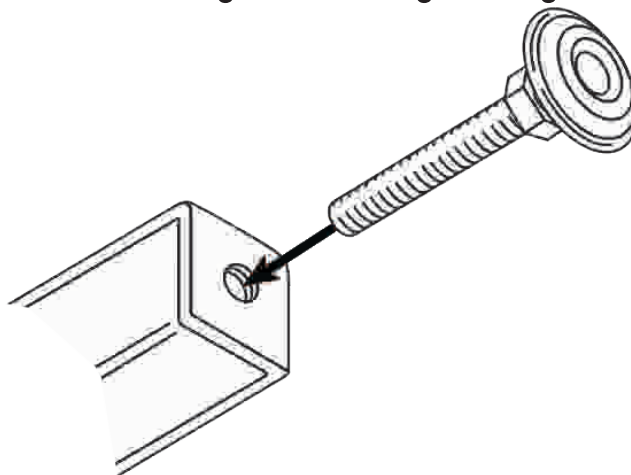

Fig. 3 Adjusting a leg leveler and tightening nut
- c. Thread each foot into each leg until the tightening nut prevents it from going farther (Fig. 3)